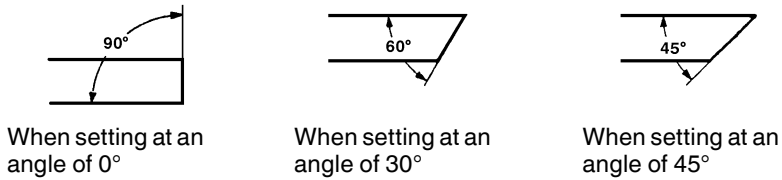

Fig. 7
4. Cutting at angles (Fig. 7 and 8).
Loosen the two M10 hexagon socket head bolts on the vise (B), then set the working surface on the vise-jaw at any angles of 0°, 30° or 45° as shown in Fig. 7.